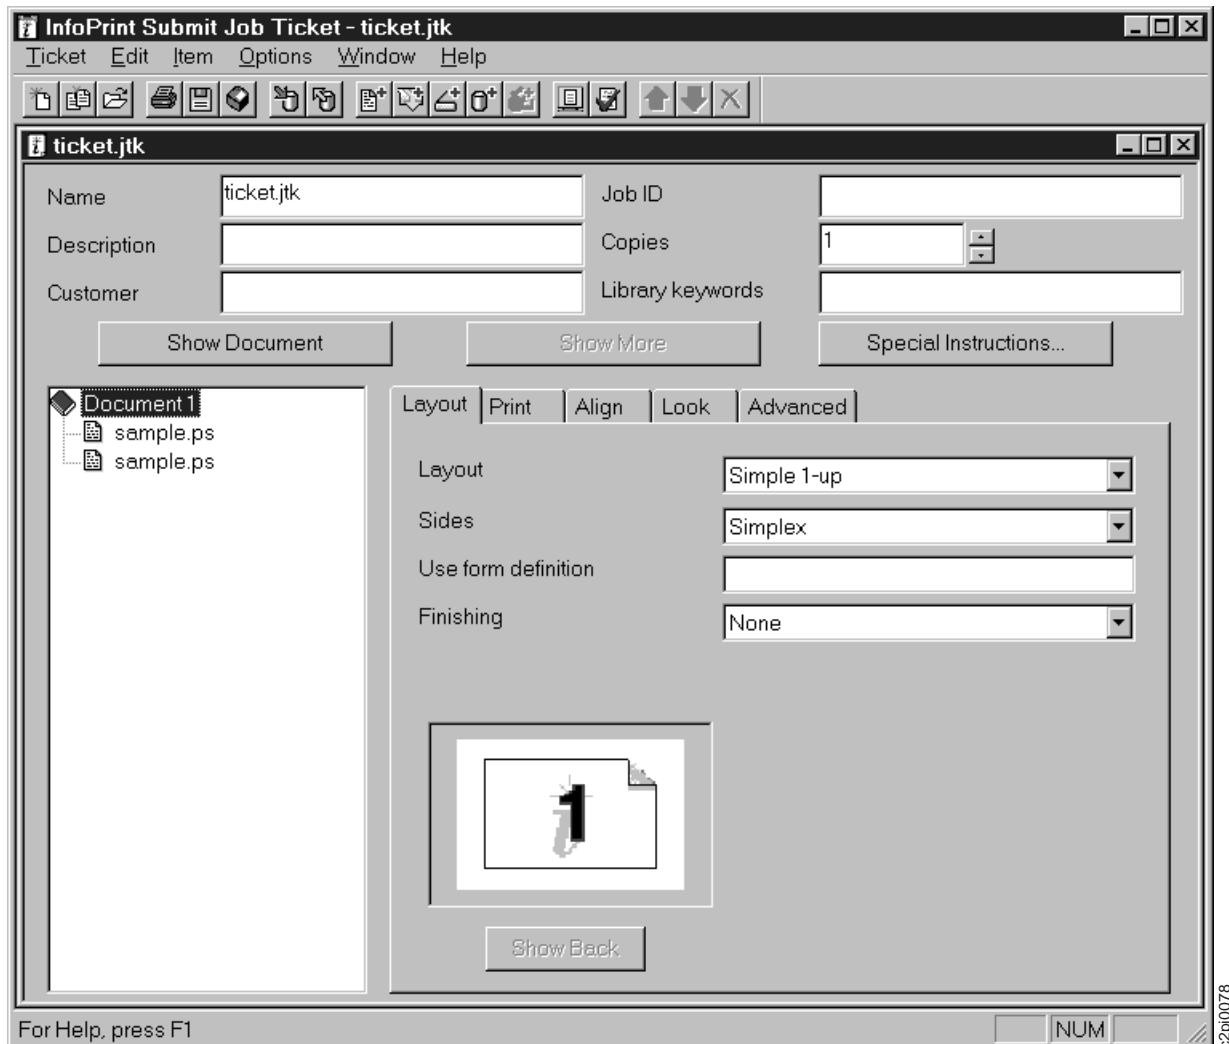

Figure 43. Z-Fold 2-UP Sheets - Layout Tab
1. In the InfoPrint Submit Job Ticket window (Figure 43), Insert the file(s) to be printed or finished.
2. Select the Layout tab. You see Figure 43.